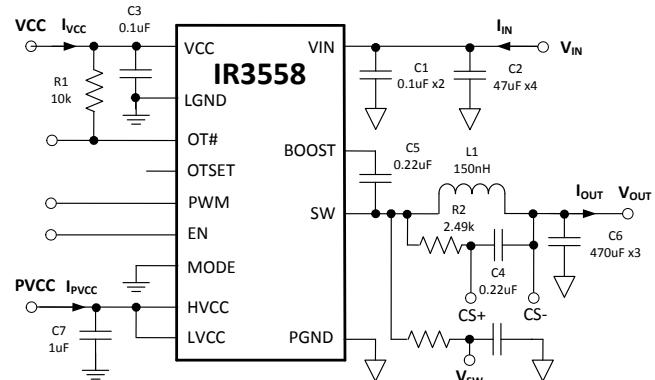

Figure 32: IR3558 Power Loss Measurement
Circuit of Figure 32,  $V_{IN}=12V$ ,  $V_{OUT}=1.2V$ ,  $f_{SW}=400kHz$ ,  $L=150nH$  (0.29mΩ),  $VCC=5V$ ,  $HVCC=LVCC=7V$ ,  $T_{AMB}=25^{\circ}C$ , no heat sink, no air flow, 8-layer PCB board of 3.7" (L) x 2.6" (W), no PWM controller loss, no inductor loss, unless specified otherwise.
The single-phase IR3558 efficiency and power loss measurement circuit is shown in Figure 32.